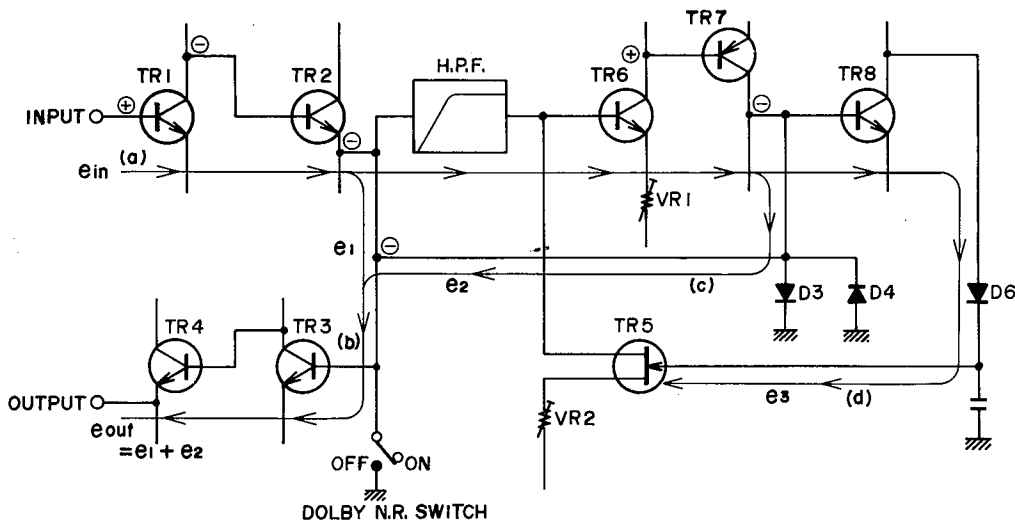

Fig. 31 Recording Dolby NR diagram
1. RECORDING DOLBY NR (Figs. 31, 32)
In figure 31, the Input Signal e_{in} passes TR1 ~ TR4 and becomes the output signal. The signal from TR2 passes the High Pass Filter (H.P.F.) and is amplified at TR6, TR7. At this time, TR6 signal is controlled by FET (field effect transistor) TR5 gate D.C. bias and the signal from TR7 is varied by means of Diodes D3, D4 characteristics and is emitted as e_2 . This output signal e_2 is inphased with TR2 output signal and TR4 output becomes the dolbyized output signal e_{out} .